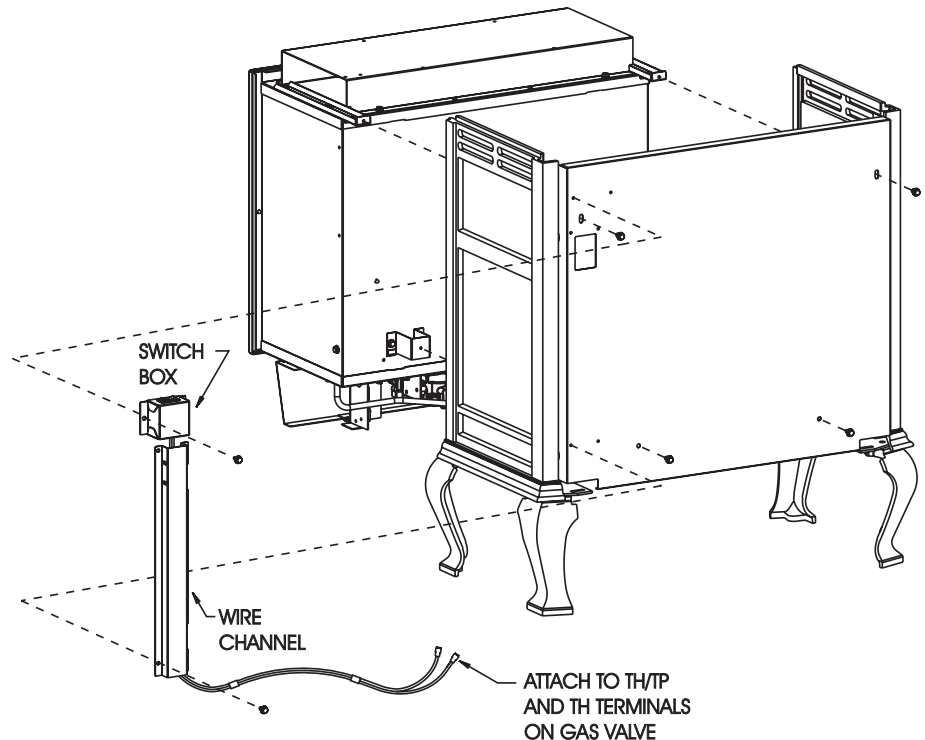

Figure 12
- F. Attaching firebox to rear cover (Figure 12).
15. Refer to Figure 12, align (4) clearance holes on rear cover with screw holes in (2) lower mounting brackets and (2) upper mounting brackets on firebox. Attach firebox to rear cover with (4) 10 x 1/2" screws.